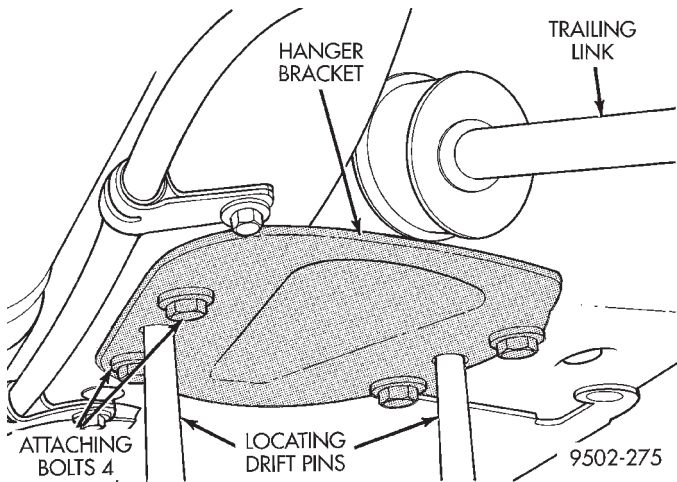

Fig. 51 Trailing Link Hanger Bracket Installation
(3) Install trailing link hanger bracket on vehicle and loosely install the 4 attaching bolts (Fig. 51). Then install 2 drift pins of appropriate size in positioning holes on hanger bracket and into locating holes in body (Fig. 51). With hanger bracket correctly positioned on vehicle tighten the 4 hanger bracket mounting bolts to a torque of 34 N·m (25 ft. lbs.).